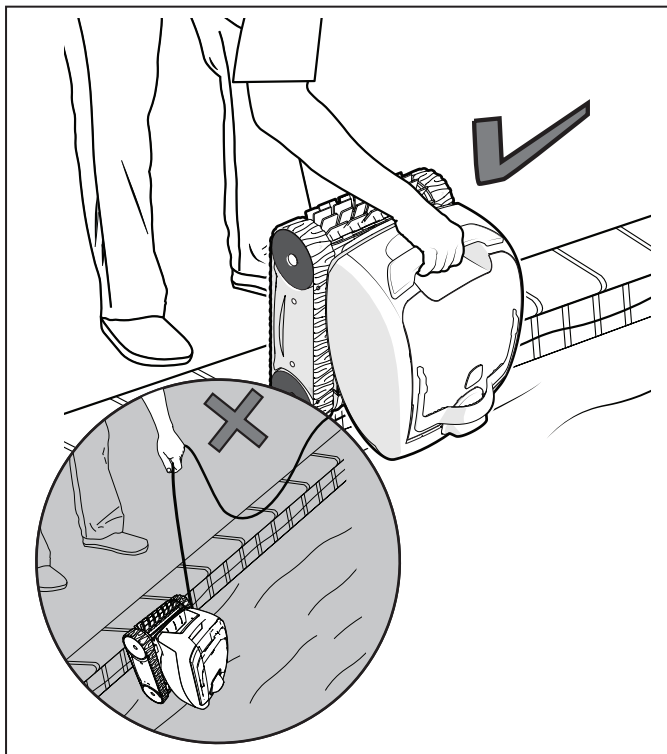

Figure 15. Lift Cleaner From Pool with Handle
2. Use the handle to lift the cleaner from the water (Figure 15). Never lift the cleaner out of the pool by the floating cable.